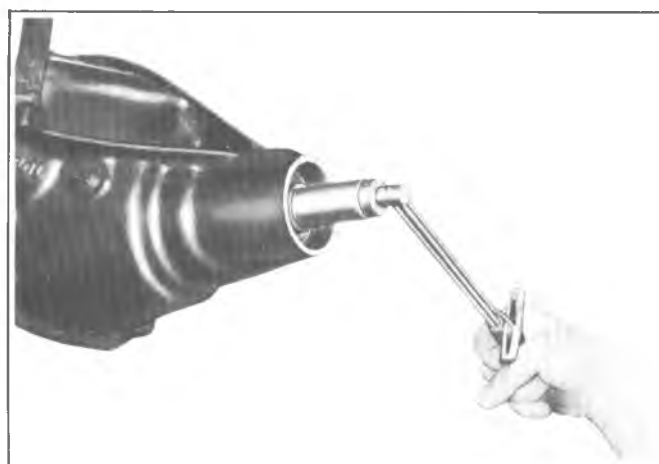

Fig. 22C--Measuring Rotating Torque
4. Hold the preload stud stationary with a wrench on the flats and tighten hex nut until 20 in. lbs. of torque are required to rotate the bearings, as shown in figure 22C.